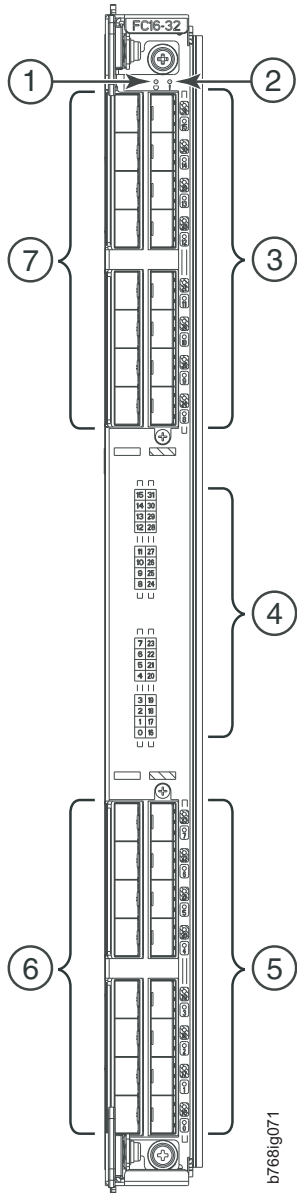

Figure 49. FC16-32 port blade
- Figure 49 on page 172 shows an FC16-32 port blade